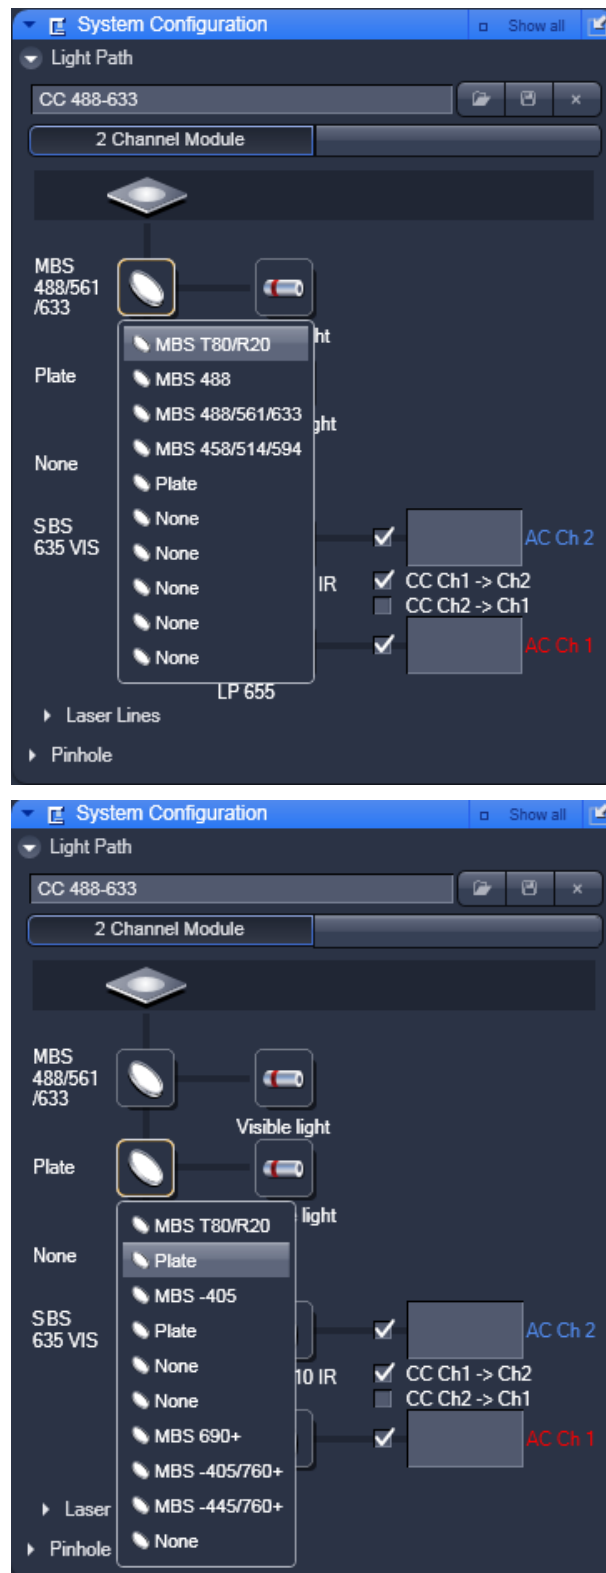

Fig. 24 System Configuration tab - Light Path panel with MBS Vis (upper panel) and Invis (lower panel) dichroics list
- Click on the MBS icon to open a list of dichroics (Fig. 24).